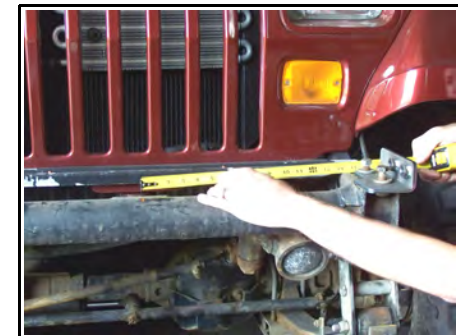

Figure 3
Step 5 - Measure from center point (measured in Step 3) to outside of the Vertical flange on bracket. Locate bracket at 16 7/8" from center point. Repeat to opposite side bracket. (See Figure 3) This step will ensure The bumper slides over the brackets easily. Once brackets are in proper position Torque all four (4) bolts to 119 ft./lbs.